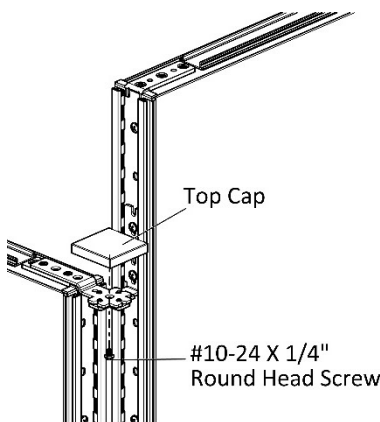

Figure 5
7. Securely fasten top cap with #10-24 X 1/4" Round Head Screw, (Figure 5).